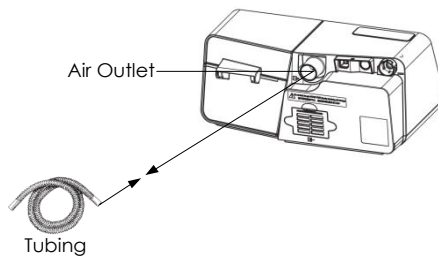

Fig. 10-8
(1) Connect one end of the tubing to the air outlet of the device, as shown in Fig. 10-8.